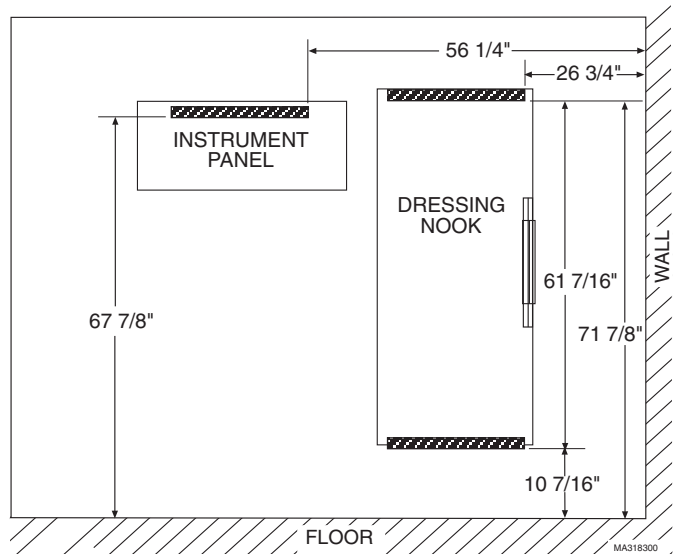
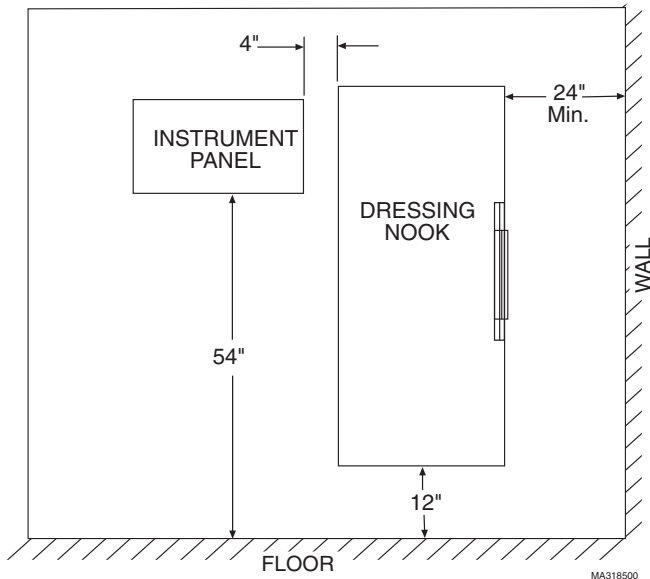

FIGURE 3. MOUNTING BRACKET POSITIONING ON WALL
FIGURE 2. DRESSING NOOK / INSTRUMENT PANEL POSITIONING ON WALL
2. Check clearance required for placing a side chair beside the Dressing Nook. A minimum of 24 in. (61 cm) is required for the 129 / 429 Side Chair. See Figure 2.
If the locations of the units differ from what is shown in Figures 2, then bracket locations shown in Figure 3 must be changed accordingly.
3. Measure and mark the mounting locations of the mounting brackets on the wall. See Figure 3.